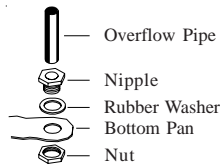

Fig. 6
- **Install overflow assembly.** Remove nut and place nipple through the hole in the pan, with the rubber washer between the pan and the head of the drain nipple (Fig. 6). Screw on nut and draw up tight against bottom of pan. Insert overflow pipe in nipple to retain